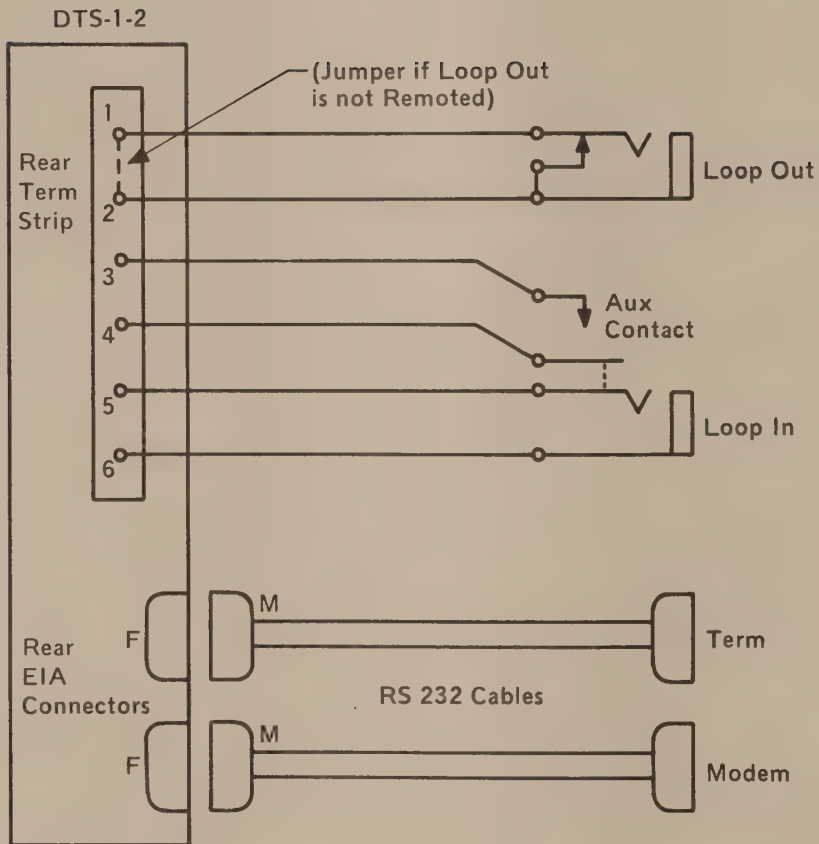

Fig. 4-4—Remote Connections DB-1-2
4.05 The DATA TEK Model DTS-1-2 rack-mount unit is supplied with a 19-inch panel for standard 8.76-inch high RETMA mounting. All front panel connector-access to EIA and LOOP is maintained. Additionally, rear access is provided via duplicated EIA connectors, plus a 6-terminal barrier strip for remote LOOP IN and LOOP OUT jacks. Two additional wires must be connected to remote the loop mA meter capability. See Figure 4-4.